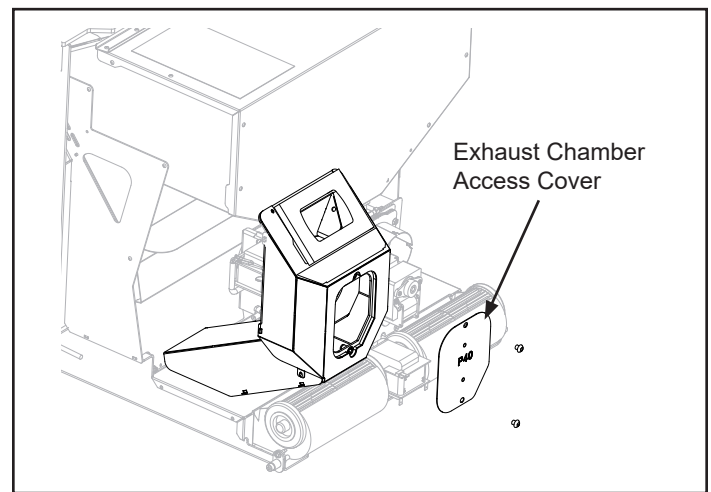

Figure 2.7
- i. Remove the exhaust chamber access cover on the right rear of the insert, Figure 2.7